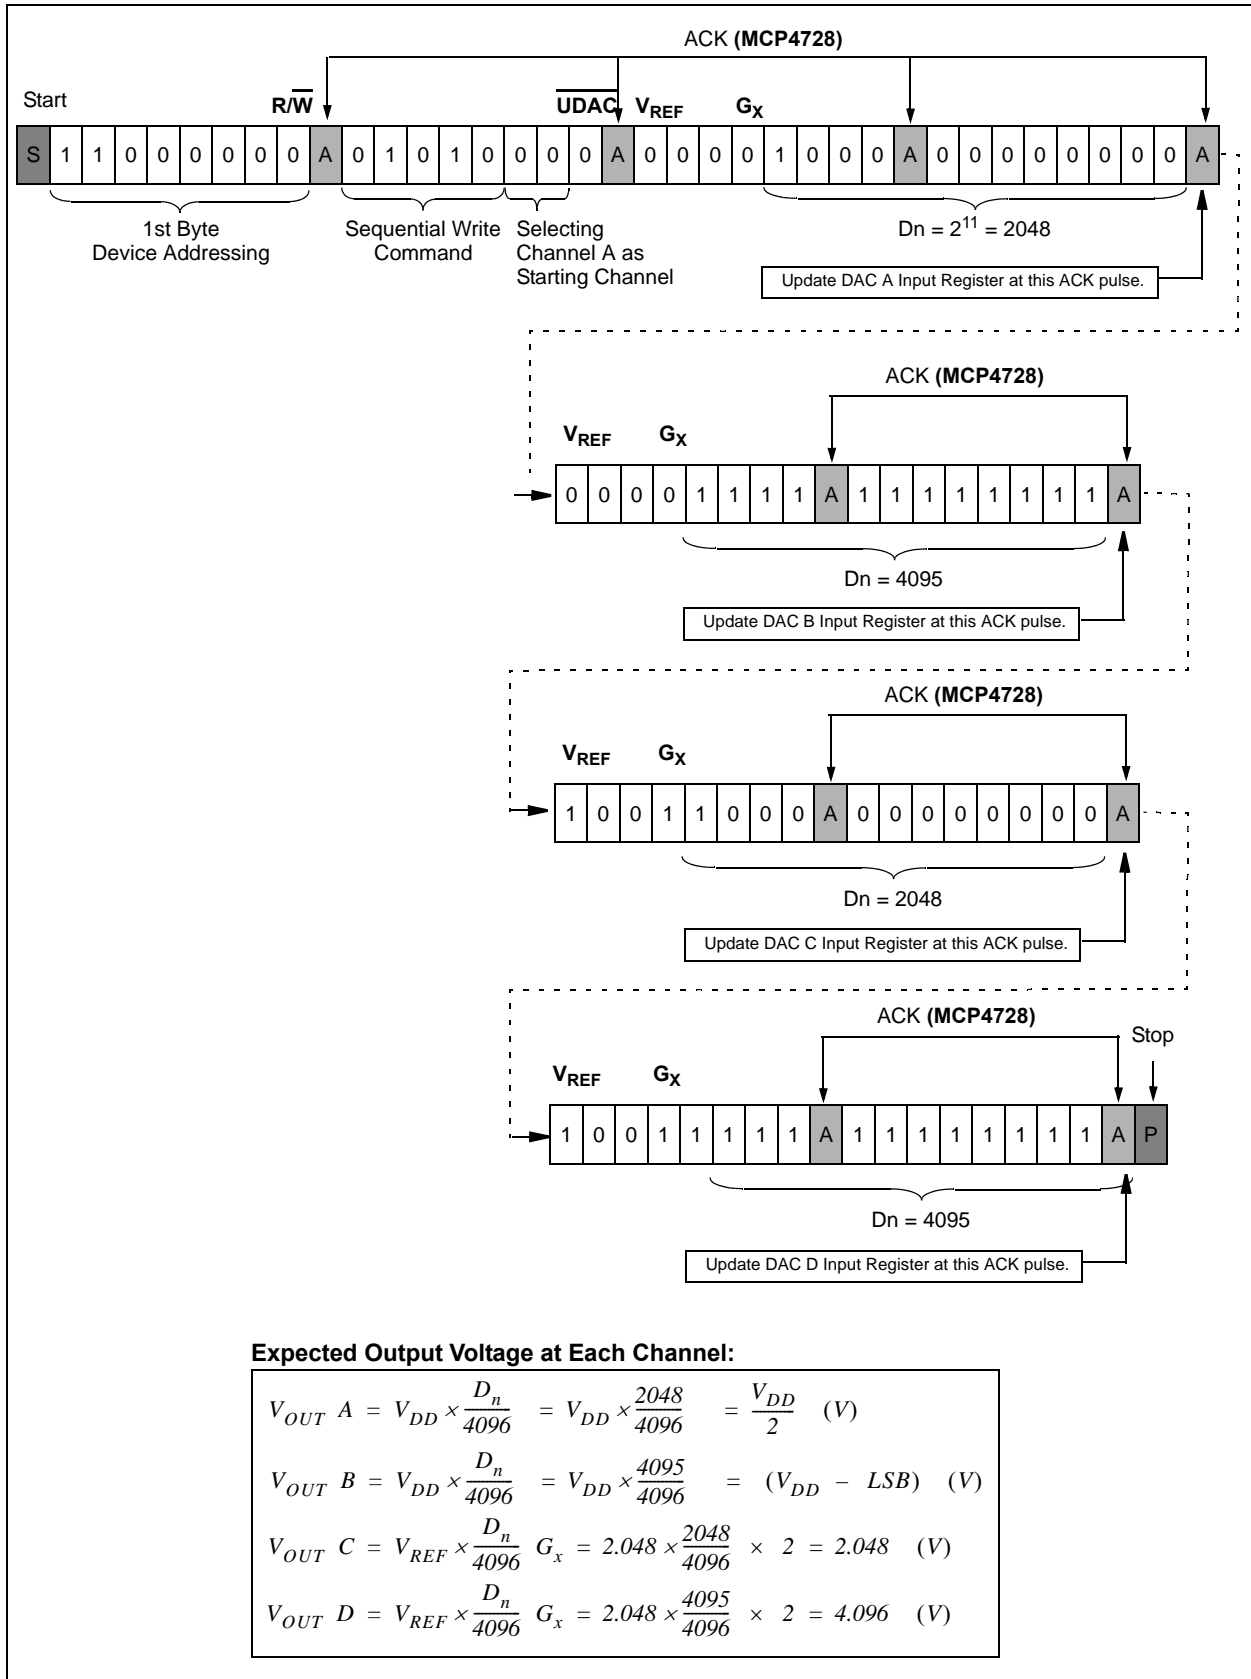
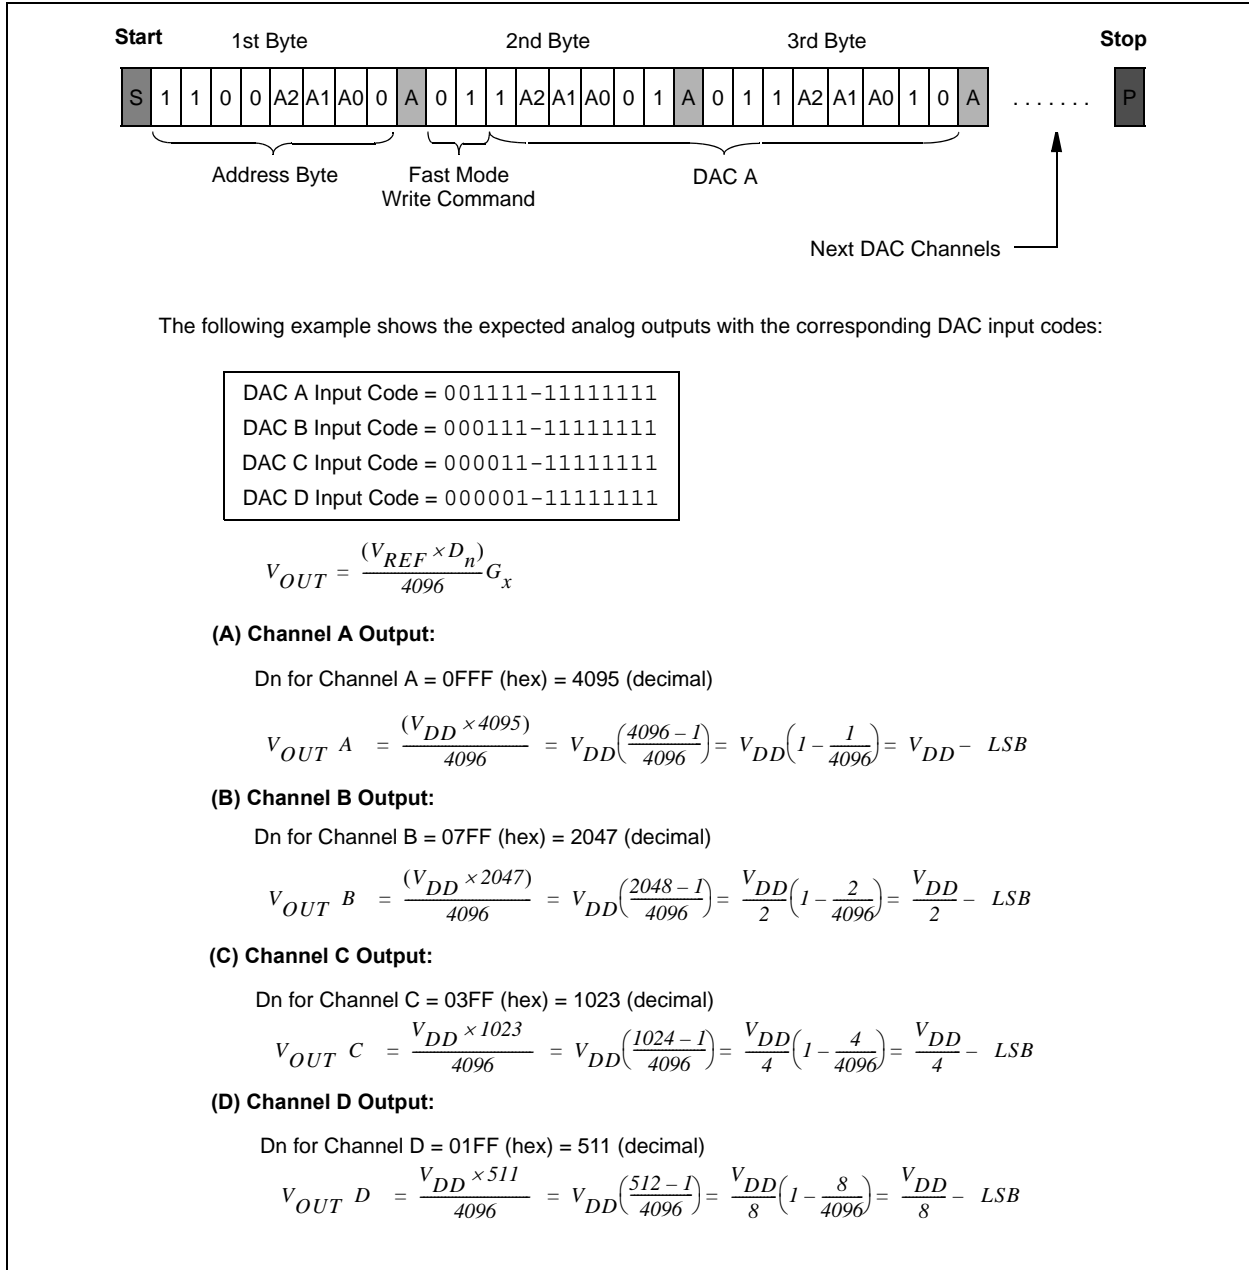

FIGURE 7-4: Sequential Write Command for Setting Test Points in Figure 7-3.
FIGURE 7-5: Example of Writing Fast Write Command for Various V_{OUT} . $V_{REF} = V_{DD}$ for all Channels.
Let us consider that the application requires different trip voltages (Trip 1 - Trip 4). Assuming the DAC output voltage requirements are given as shown in Table 7-1, examples of sending the Sequential Write and Fast Write commands are shown in Figure 7-4 and Figure 7-5.
6. Updated Figure 5-11 and Figure 7-4.